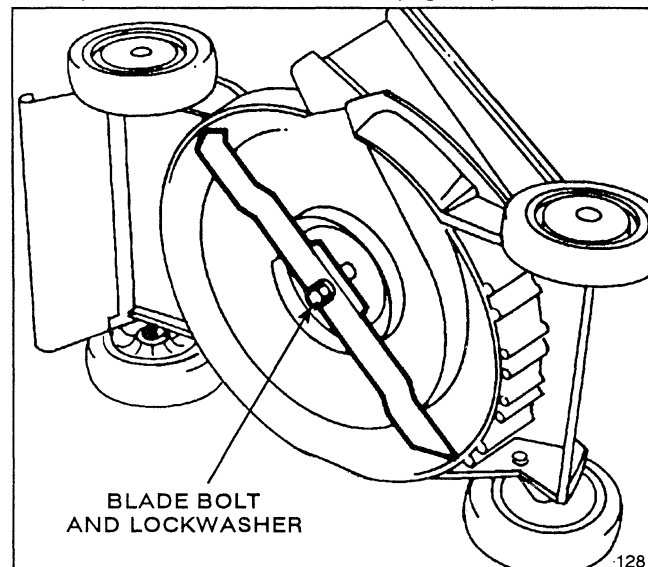

Figure 11
3. Tip mower on its left side (Fig. 11).
5. REMOVING BLADE—Grasp end of blade using a rag or thickly padded glove. Remove blade bolt, lockwasher and blade (Fig. 11).